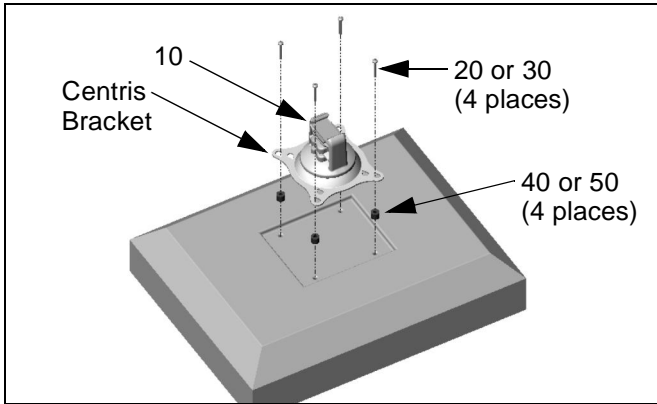

Figure 14: Dual / Triple Display - Recessed Mount
6. Place the Centris head (dual knob assembly) onto the spacers, aligning the mounting holes on the Centris bracket with the holes in the spacers (See Figure 14).
7. Using Phillips screwdriver, install four selected screws through the mounting holes in Centris bracket, through the spacers, into the display (See Figure 14). Tighten all four screws. Do not overtighten!